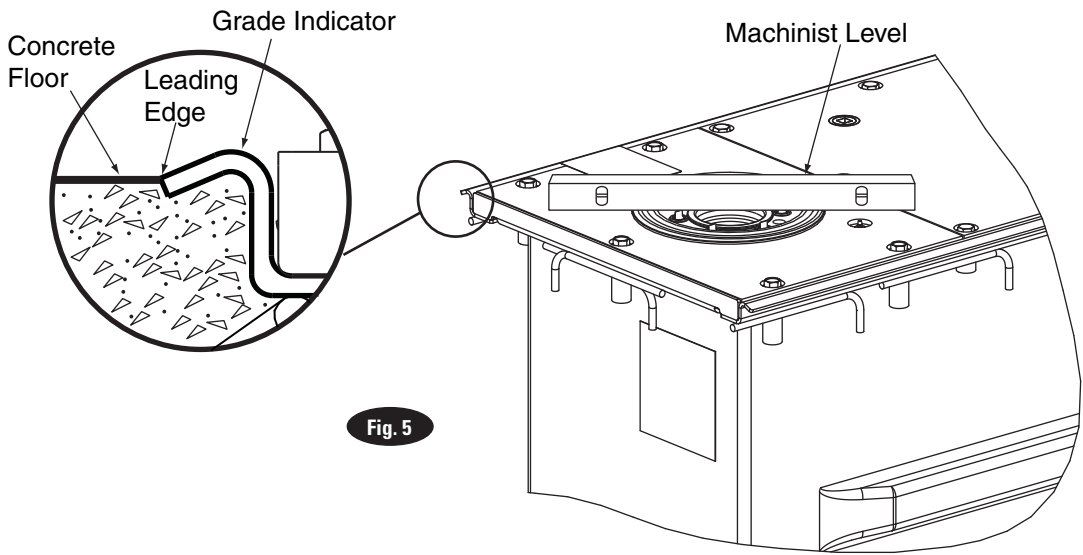

Fig. 5
Owner: Your Installer Is Responsible For The Concrete Floor Being Finished To The Leading Edge Of The Grade Angle (1/4" Below Top Of Lift), NOT To The Top Of The Lift, Fig. 5. Failure To Comply Will Void Warranty.
- E.** Plumb and level by placing machinist level on top of jack. Do Not plumb or level off unit frame. See Fig. 5.
C. After lift is backfilled, make final elevation and plumb checks, Fig 5.